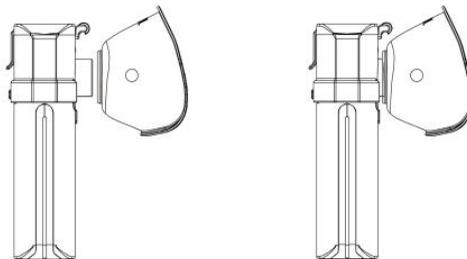

figure 6
- Connect the mask to the nebuliser liquid cup as shown in figure 6.